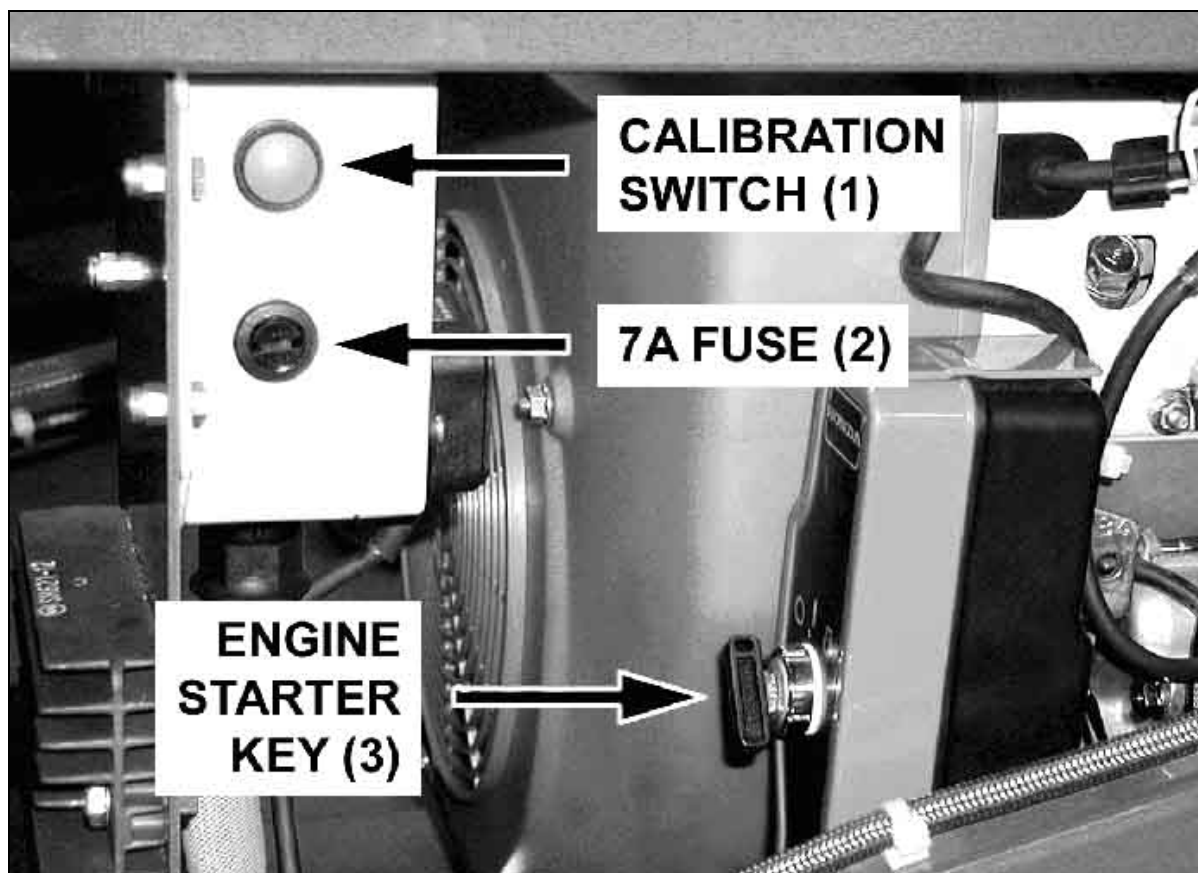

Fig. 3 – Engine Starter & Calibration Switches
3. Turn the engine starter key (3 in Fig. 3) to START () until the engine starts.
7. Press and hold the **Calibrate** switch on the box near the engine (1 in Fig. 3) until a steady stream of insecticide comes from the calibration tube in each sprayhead.